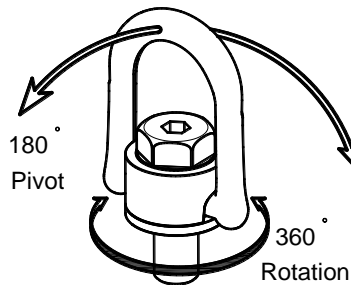

Figure 4
- Always ensure free movement of bail. The bail should pivot 180 degrees and swivel 360 degrees (Fig. 4)